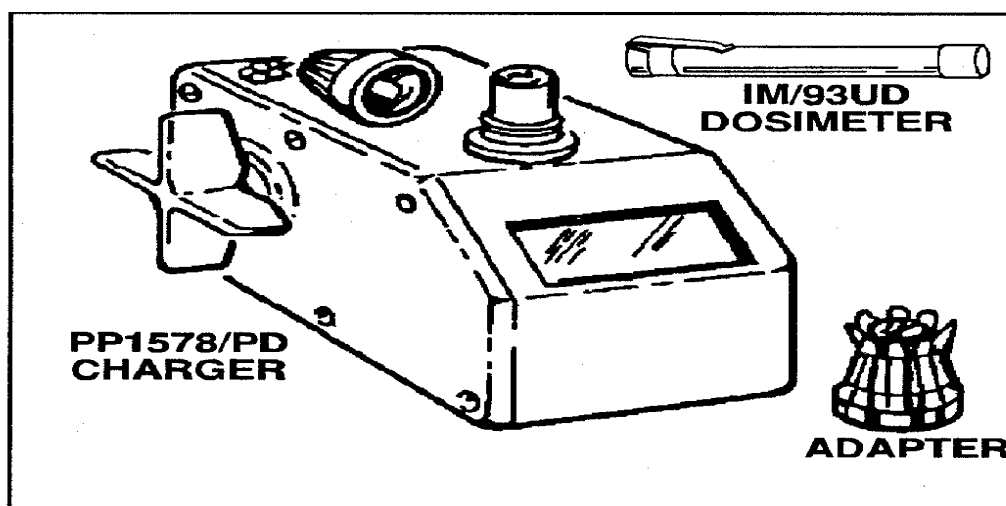

Figure 5-11 The PP1578A/PD Radiac detector charger-IM 93/UD Dosimeter-/Adapter.
c. The Army standard tactical instrument for reading total radiation dose is the IM93/UD (Figure 5-11). It is a tubular device, about the size of a fountain pen. It allows the user to read the accumulated gamma total dose simply by looking through the lens while pointing the instrument toward the sun or another bright light source. One end has a dust cap to keep dirt from the charging contacts. This dosimeter requires a charging unit—the PPI578A/PD radiac-detector charger. This charger is a small, electrostatic-charge generator. It is designed to serve all US and certain NATO combat dosimeters. The charger has its own NATO adapter stored within the case. The major operating features of the charger are the charging knob, charging pedestal, and window. Reading the unit requires direct sunlight or another bright light source, such as vehicle headlights or a flashlight. See TM 11-6665-214-10 for instructions on care and maintenance.